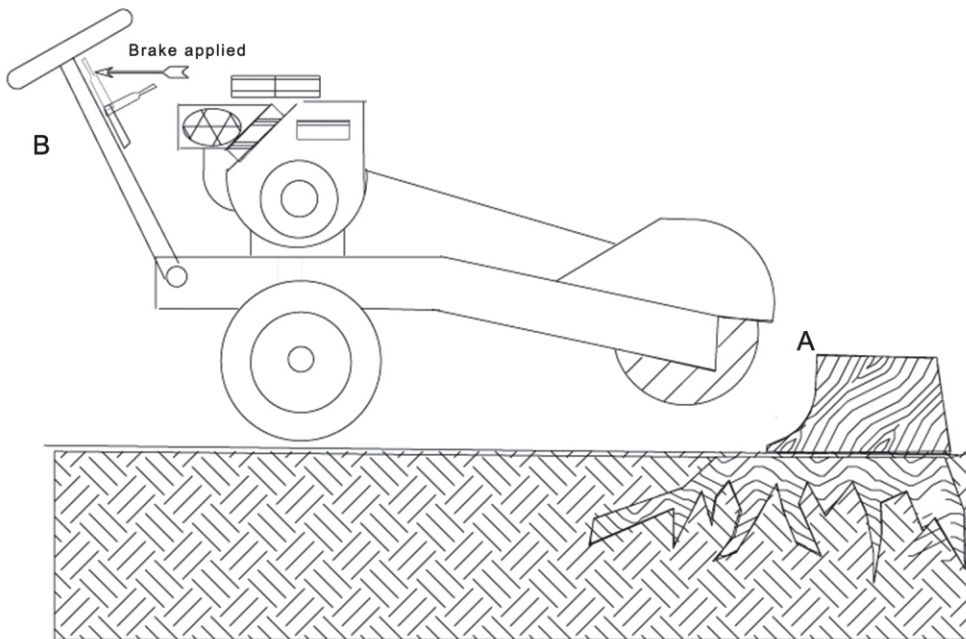

Fig.1: Positioning the LGSG13HC
2. Position the cutter wheel above the top edge of the stump that is closest to you (see Point A, Figure 1)
3. While standing behind the operator presence loop, lock brake wheel by pulling brake lever handle toward you (see Point B, Figure 1)